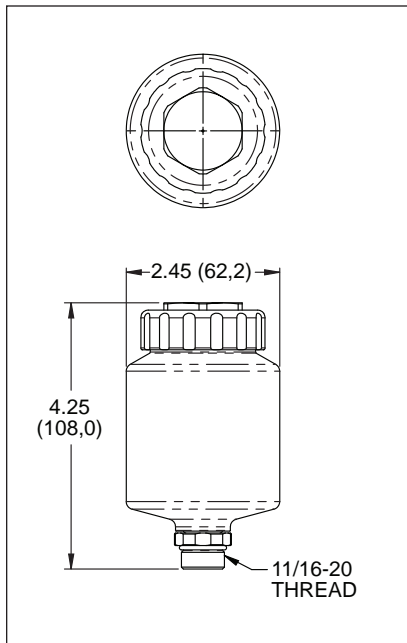

Figure 1. Part Number 260-12696
- Part number 260-12696, Figure 1 is a direct mount billet aluminum reservoir designed specifically to mount to Wilwood's flange or side mount compact short master cylinders via the 11/16-20 internally threaded reservoir support. Master cylinder part numbers 260-10371 thru 260-10376 and 260-12384 thru 260-12389.